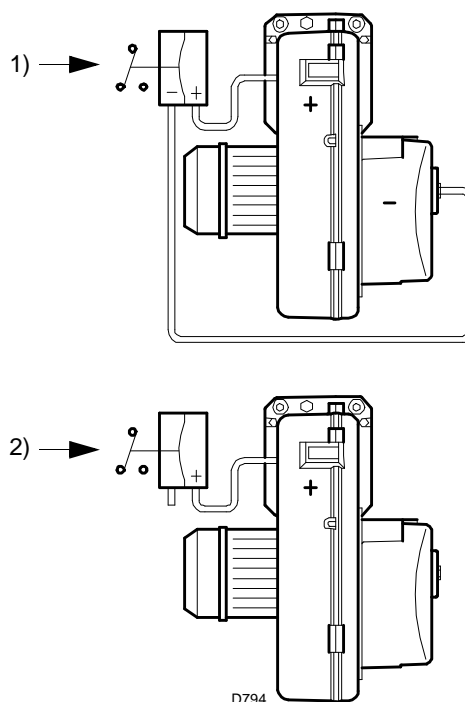

Fig. 30
The air pressure switch can be connected in differential mode 1)(Fig. 30), i.e. it is under pressure either by the depression or pressure generated by the fan. In this way the burner can operate even in combustion chambers in depression and with high modulation ratios: MIN / MAX outputs of up to 1/6.
In civil applications the pipe from the fan air inlet should be removed, see 2)(Fig. 30), and the pressure switch must be adjusted as follows.
Air pressure switch connected as in 2)(Fig. 30)
- Disconnect the air adduction tube of the pressure switch at positive value (+)(Fig. 30 on page 25)